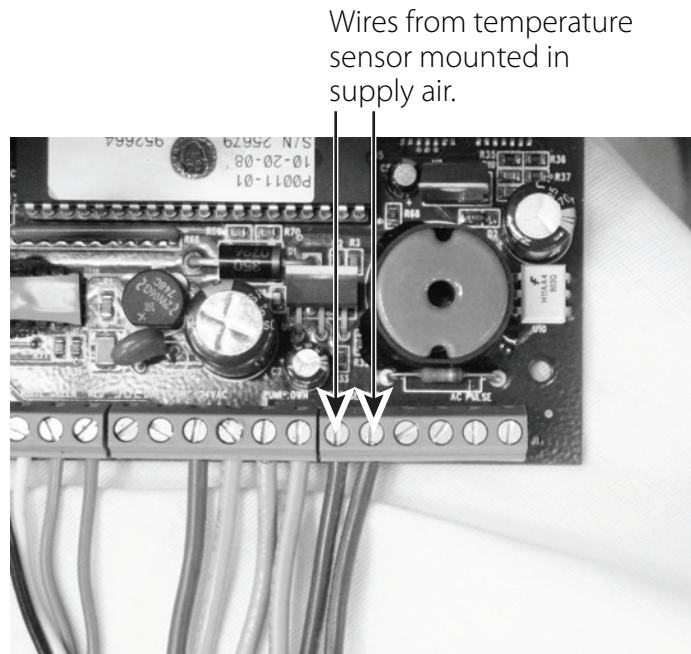

Figure 6 - Temperature Sensor Wires
2. All heat pump models have built-in mounting flanges. See Figure 6.
3. Refer to Figure 6. Attach the bottom support bracket to the wall using appropriate 3/8" diameter hardware.